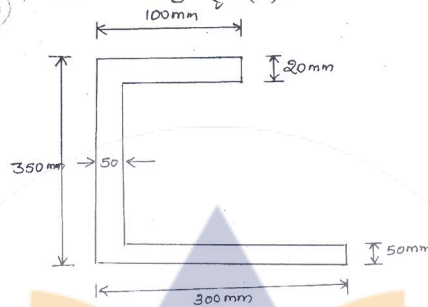

Fig. Q1 (b)
b. Locate the centroid of the beam in Fig. Q1 (b). (12 Marks)